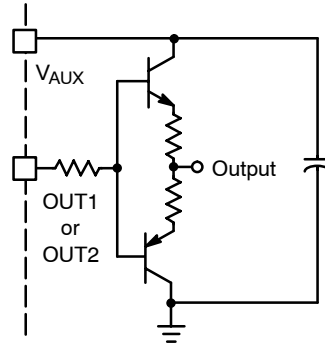

Figure 47. Discrete Boost Drive Stage
1.0 A. If a higher drive capability is required, an external driver stage can be easily added as shown in Figure 47.